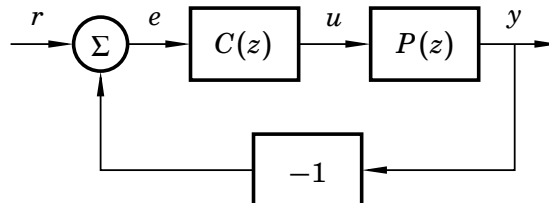
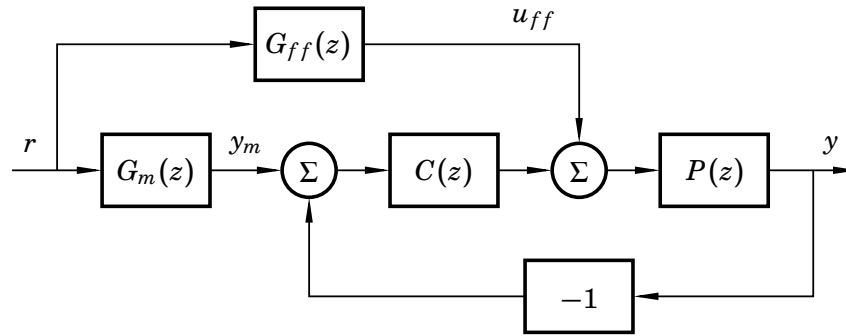

Figure 1 The old structure in Problem 2.
Figure 2 The new structure in Problem 2.
2. Consider the two SISO controller structures in Figure 1 and Figure 2.
a. How do you motivate a change from the structure in Figure 1 to the structure in Figure 2? (1 p)
b. What is the transfer function from r to y in Figure 2? (1 p)